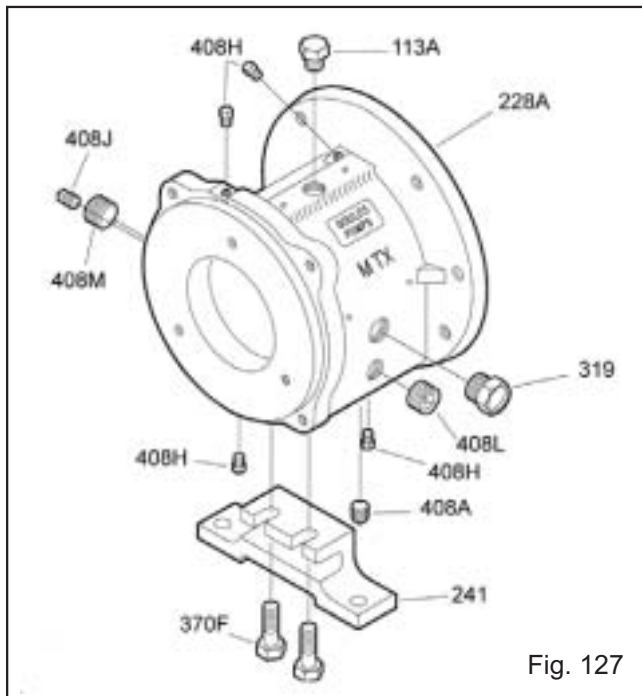

Fig. 127
1. Install the oil fill plug (113A), oil drain plug (408A), sight window (319), sight oiler plug (408J), four oil mist connection plugs (408H), or grease fittings (193) and grease relief plugs (113), and oil cooler inlet and outlet plugs or oil cooler (408L, 408M) in bearing frame (228) (Fig. 127).
2. Attach bearing frame foot (241) with bolts (370F). Hand tighten (Fig. 127).